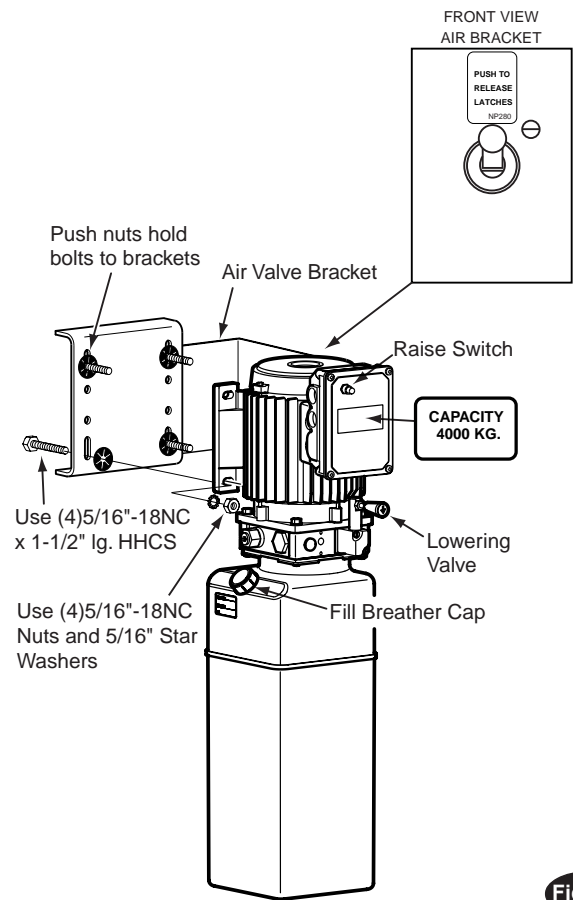

Fig. 17
A. Align Air Valve Bracket with holes in right side of Column Bracket (with left side holes of Column Bracket if mounting on left). Insert four $\frac{5}{16}$ " x $1\frac{1}{2}$ " hex bolts through holes in Air Valve Bracket and Column Bracket. Use push nuts to hold in place. Fig. 17